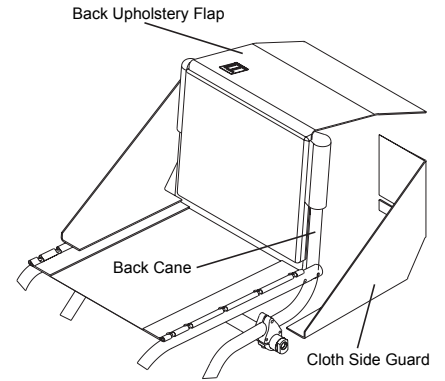

Figure 50
2. Separate the cloth side guards from the seat upholstery and the back upholstery. See Figure 50.